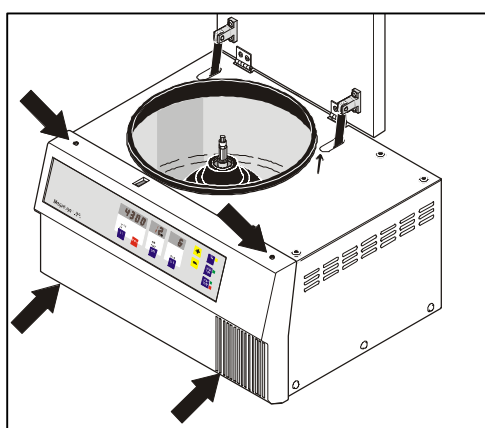

Figure 3
- Unscrew the two Phillips screws (131) from the upper edge of the front panel. (Figure 3)